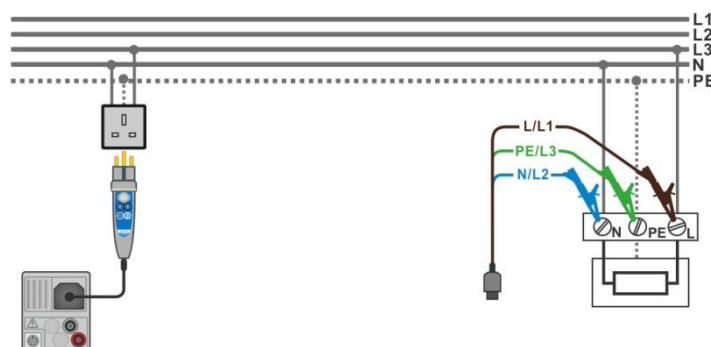

Figure 7.41: Connection of Plug commander and 3-wire test lead
- › Connect test leads or Plug commander to the object under test, see **Figure 7.41**.